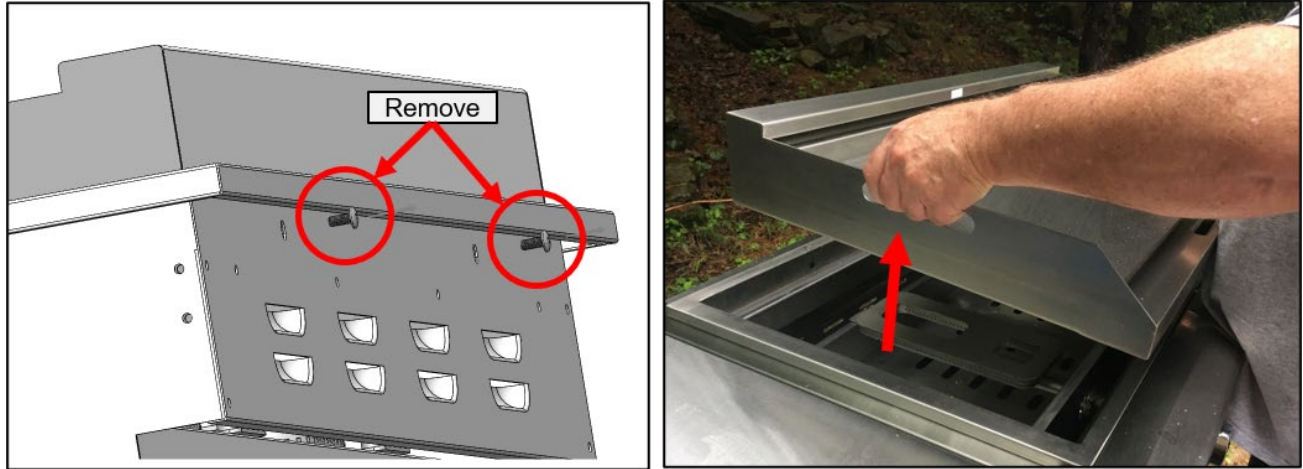

Figure 9 Remove Griddle Plate
- a. Remove the two shipping screws as shown in Figure 9 (left) and store them in a safe place